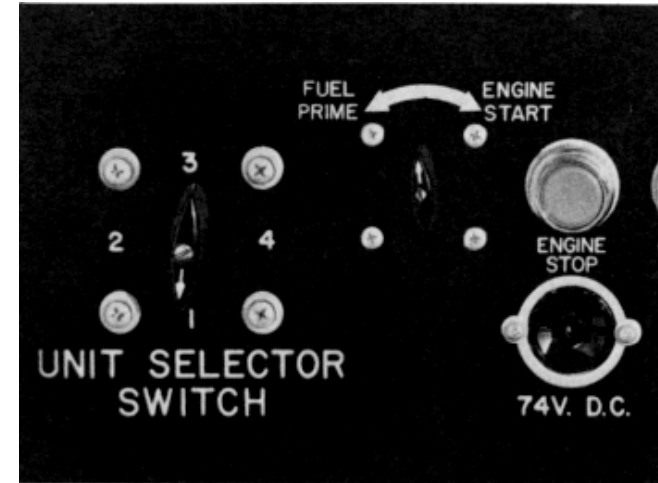
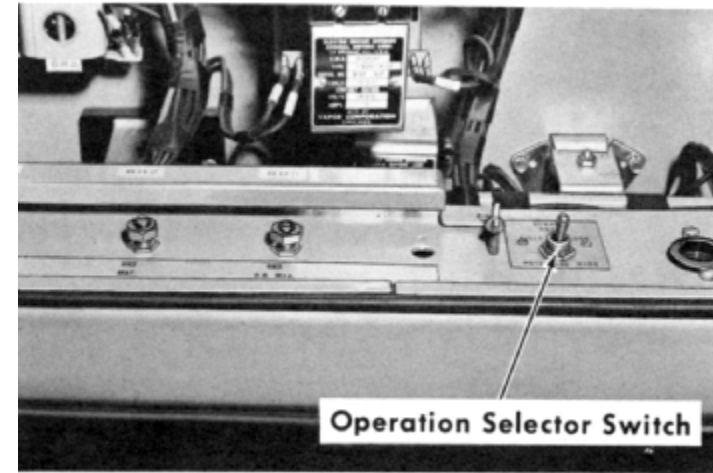

Fig. 3-4 - Unit Selector, Fuel Prime / Engine Start And Engine Stop Switches
Fig. 3-6 - Operation Selector Switch
2. Unit selector switch (where used), Fig. 3-4, in position corresponding with total number of units in locomotive consist (See Fig. 3-6).
1. Place the fuel prime and engine start switch, Fig. 3-4, in FUEL PRIME position, and hold there for 10 to 15 seconds to prime the fuel system. Move switch to ENGINE START position and hold (not more than 15 seconds) until engine starts and runs. If the engine fails to start, consult "Trouble Shooting" section for possible cause.
If the unit is equipped to lead or trail in field loop, it is provided with an operation selector switch located in the electrical cabinet, Fig. 3-6. Units equipped to lead only in field loop are not provided with an operation selector switch. Such units must be in the lead if field loop control of dynamic braking is to be used.